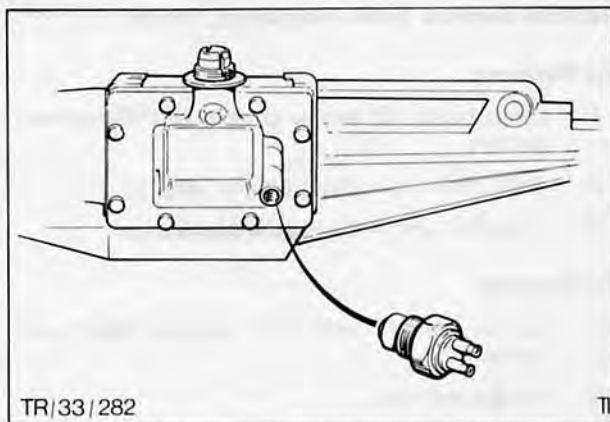

Fig. 82. Location of switch
3. Disconnect loom and unscrew switch which is located in gearbox extension housing, Fig. 82.